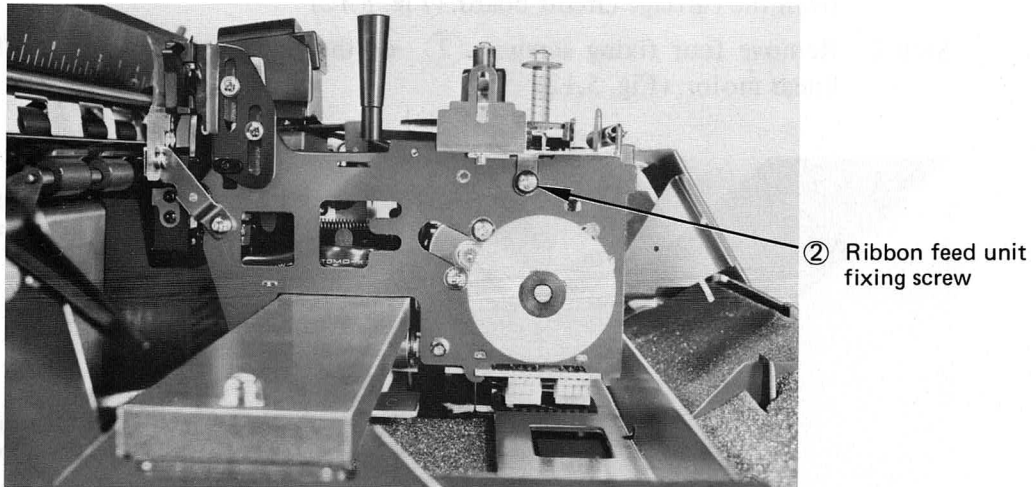

Fig. 5.10
Step 3. Remove fixing screws ② of the ribbon feed unit at the left of the carriage frame. (Fig. 5.10)